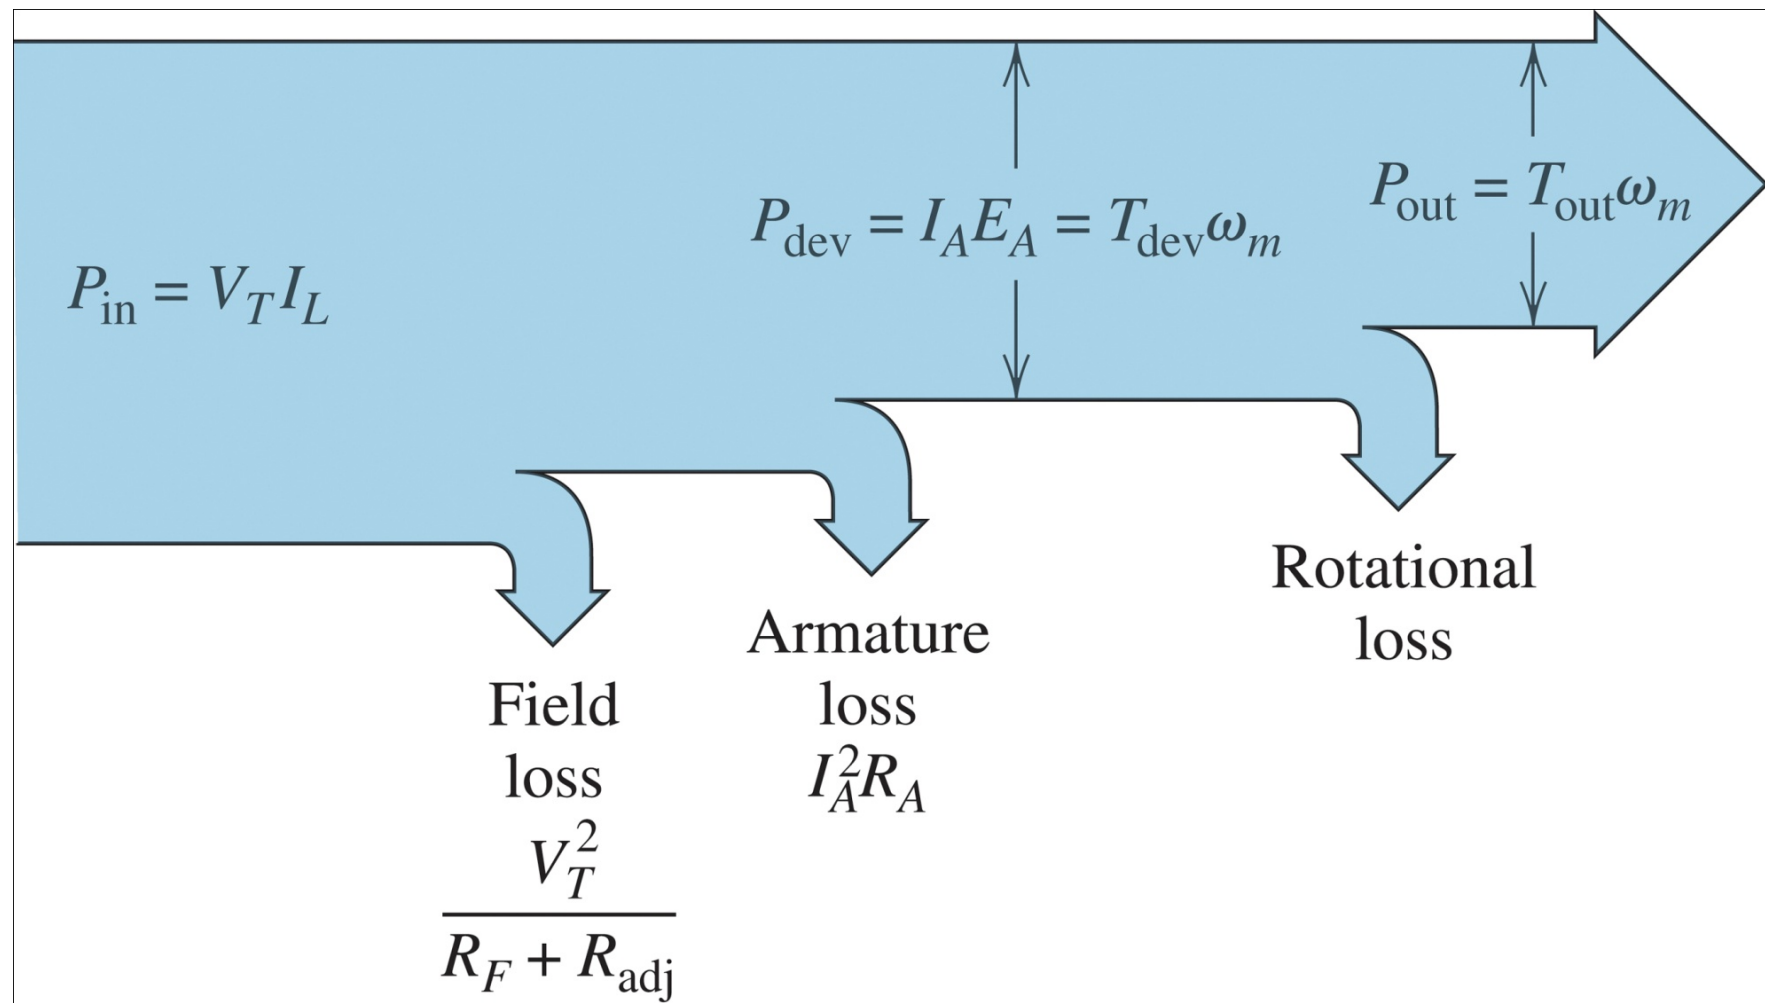

Fig. 5.17 Power flow in a shunt-connected DC motor.
- Fig. 5.17 shows the power flow in a shunt connected DC motor.